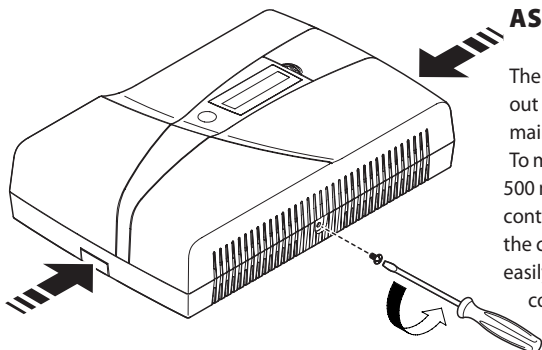

fig. 1
- open the cover by unscrewing the screw positioned on the bottom of the Control Panel (fig. 1).
- detach the cover from the container exerting slight pressure on the side "tongues" as shown in the figure (fig. 1).